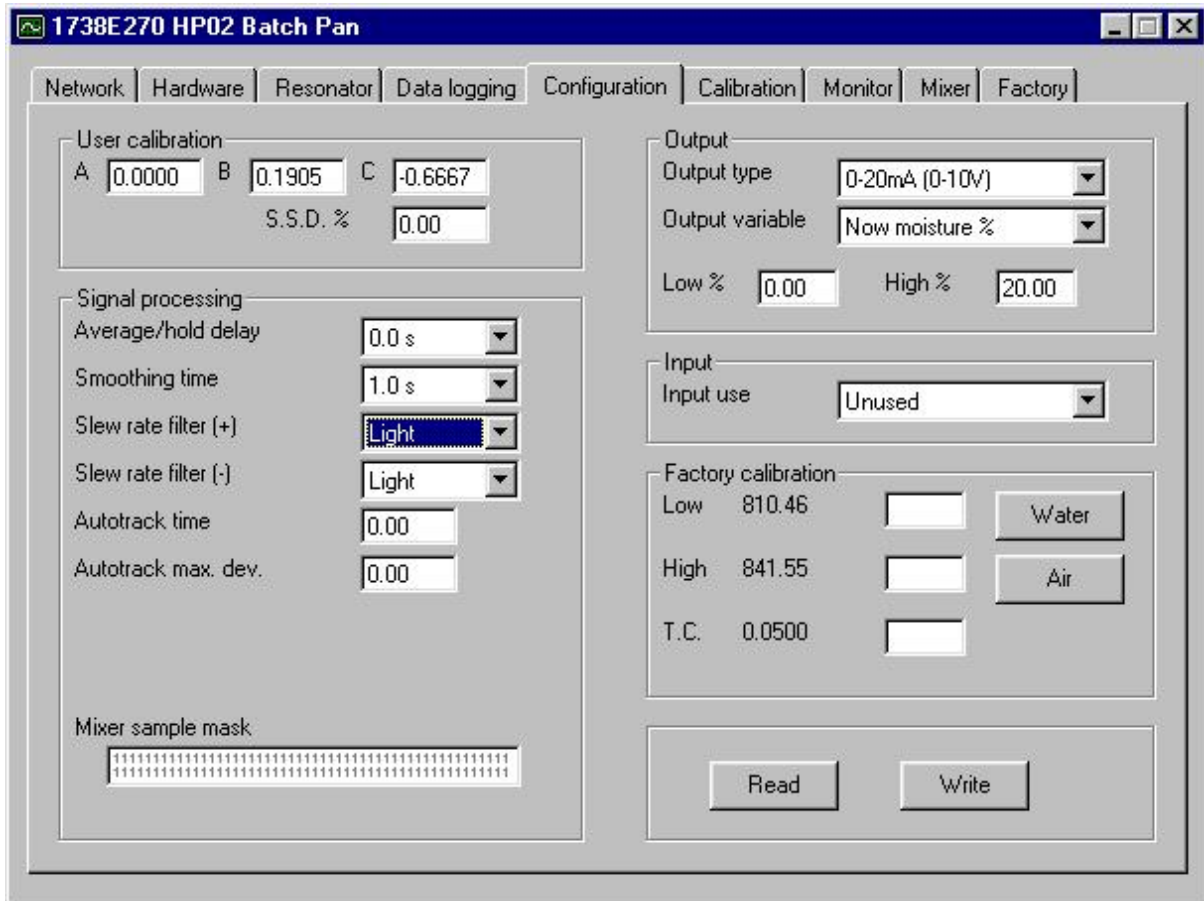

Fig. 3 : Hydrolink Configuration Tab Showing Values to Enter.
- After a couple of seconds a message informing you that the memory has been updated will appear. Click the OK button. The parameters shown in Figure 3 have now have now been permanently stored in the HP02 memory.
- **Note** : The values in the factory calibration frame will differ from those shown in Fig 3. **They should not be changed under any circumstances**